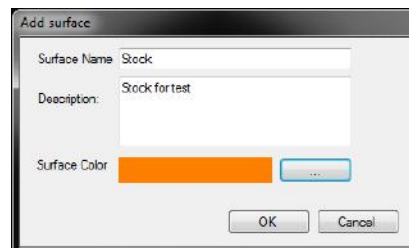

Figure 80: Add Surface Window
3. Browse to the required points XYZ file, parse the point lines as needed and click on Import. The “Import Surface from Point File” window closes and the “Add Surface” window (Figure 80) opens.